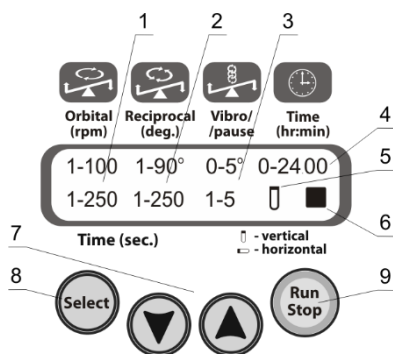

Figure 2. Multi Bio RS-24
- 5.3.4 Press the **Run Stop** key (fig. 2/9 or 3/9) to start the program.
- 5.3.5 The platform motion begins, and the corresponding indication is shown on the display: icon ► (fig. 2/6 or 3/6), the changing time values of the current movement type in seconds (fig. 2/1–2/3 or 3/1–3/3, lower line) and the operation timer in hours and minutes (fig. 2/4 or 3/4).
- 5.3.6 If the operation timer is not set and display shows 0:00 (fig. 2/4 or 3/4), pressing the **Run Stop** key causes continuous operation of the rotator until the **Run Stop** key is pressed again.
- 5.3.7 If the operation timer is set, after timer expires, the platform movement stops, display shows flashing indication ■ (fig. 2/6 or 3/6) and the unit sounds a signal about the end of operation. Press the **Run Stop** key to stop the signal.
- 6.1 Press the **Select** key (fig. 2/8 or 3/8) to choose the parameter to change. The active parameter is flashing.
- 6.2 Use the **▼** and **▲** keys (fig. 2/7 or 3/7) to set the necessary value. If the key is pressed for more than 2 s, the numerical values change quicker.
- 6.4 The countdown timer (fig. 2/4 or 3/4) is used to control the operation time. The timer can be set for the period from 1 min to 24 hours.
When the tube icon (fig. 2/5 or 3/5) is in vertical position, reciprocal rotation starts from tubes in vertical position (platform in horizontal position).